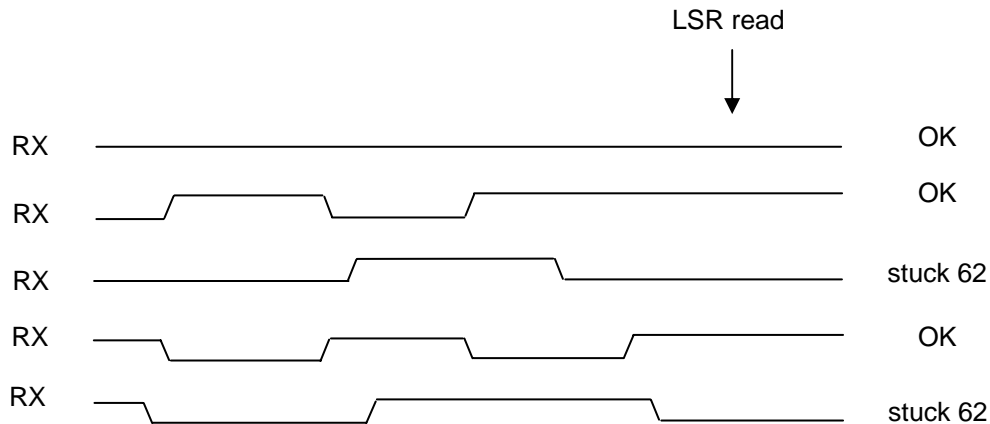

Figure 1.
- Problem:** The TL16C754B UART correctly generates a character timeout interrupt (if IER0 set) when the serial input (RX) has gone quiescent (continuously high) for more than four character times. The problem is that if a new character is received after the timeout, the interrupt will be cleared. The interrupt will be generated again if another timeout occurs. This is an error because reading the RHR (RBR) should be the only clearing mechanism for this interrupt.
**Work Around:** If software is responding to an asserted INT and a read of the IIR reports no active interrupt, then assume it is caused by a new byte being received. Check the LSR; if LSR0 (DR) is set, read the RHR and repeat.
- Problem:** The TL16C754B UART can present a stuck interrupt caused by the LSR being stuck at 62 (overrun indication). The conditions are non-FIFO mode (FCR0=0), LSR error interrupts enabled (IER2=1), and the RX input held low for an extended period. Note that the marking state for RX is high, so this last condition is usually only seen at startup when the RX source has not yet stabilized. Since the device powers up in non-FIFO mode, the problem can occur before FIFO mode has had a chance to be enabled. Figure 1 illustrates when the problem can occur. Each low time on the RX signal is relatively long, and since the divisor registers power up unknown, it is impossible to say with certainty if the low times are sufficient to generate a break character. However, assume that they are. The problem occurs only if more than one break character is detected, which causes an overrun error since the device is in non-FIFO mode. Normally reading the LSR clears the overrun interrupt, but if the RX signal is still low when the LSR is read, the overrun condition will persist erroneously. Once the problem has occurred, changing from non-FIFO to FIFO mode will not clear it out until the RX source is stable.